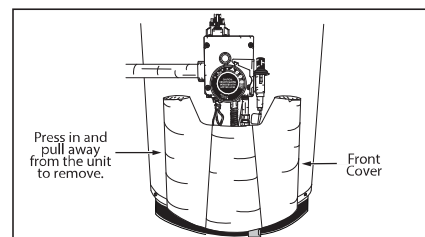

Figure 46 - Front Cover Inlet Damper.
- 3 Remove the front cover by pressing in at the left side of the cover and pull it away from the heater. (See Figure 46)